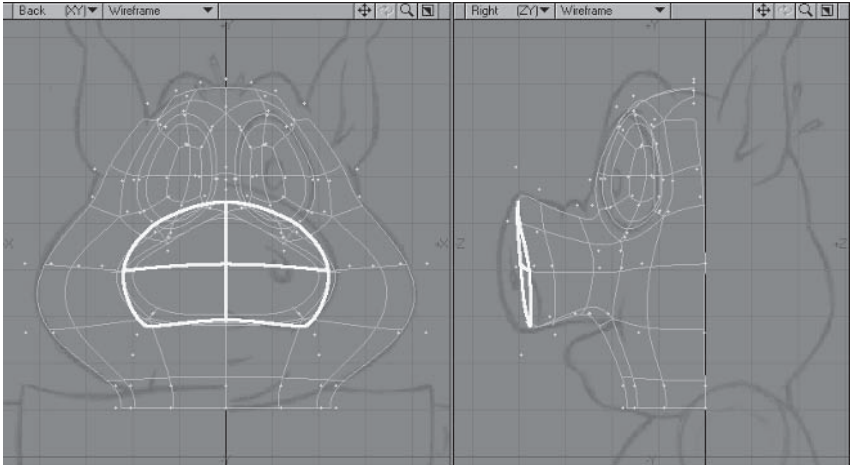

Figure 5.3-13. Creating the end of the nose.
5. **Extender Plus** again and **Move** the polygons forward to the end of the nose in the backdrop. **Stretch** and tweak to match the backdrops and Figure 5.3-13.